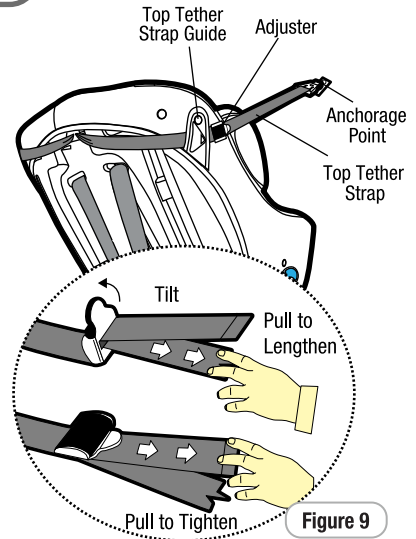

Figure 9
**Step 7:** Pull to tighten to remove all the slack, from the upper anchorage strap. Do not overtighten as this could cause the restraint to lift off the vehicle seat (refer Figure 9).